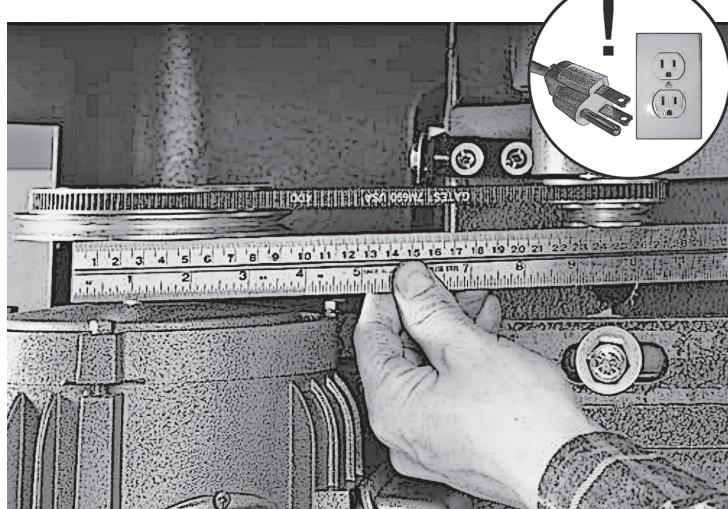

Fig 25. Inspecting pulley alignment.
- Check the alignment with a straightedge. If the pulleys are in alignment, the straightedge should touch two sides of each pulley evenly. **Figure 25.**